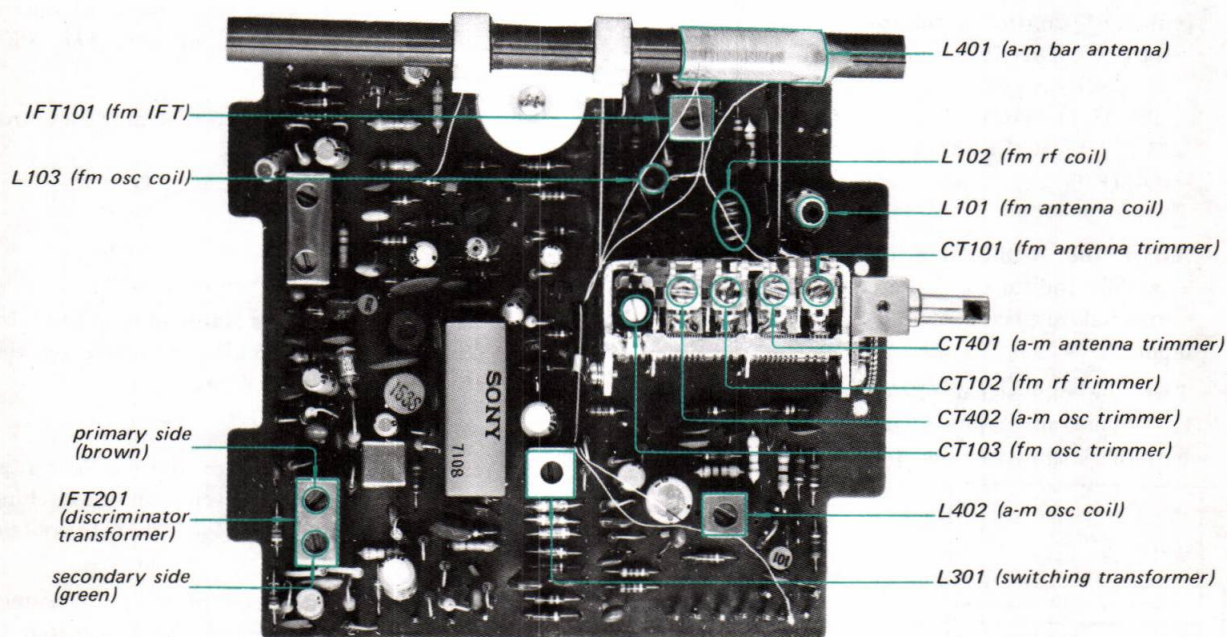

Fig. 3-12. Adjustment parts location
5. Turn the secondary side core (green) of discriminator transformer IFT201 (see Fig. 3-12) with an alignment tool to obtain a minimum indication on the oscilloscope as shown in Fig. 3-6.
7. Turn the core of fm IFT101 and primary side core (brown) of discriminator transformer IFT201 (see Fig. 3-12), to obtain the maximum output.
2. Precisely tune the set to the SSG's carrier frequency then turn the top core of switching transformer L301 (see Fig. 3-12) to obtain maximum output at the left channel.
5. The output-level to residual-level ratio represents the separation. Turn the top core of switching transformer L301 (see Fig. 3-12) for minimum residual level. Check the right channel for separation.